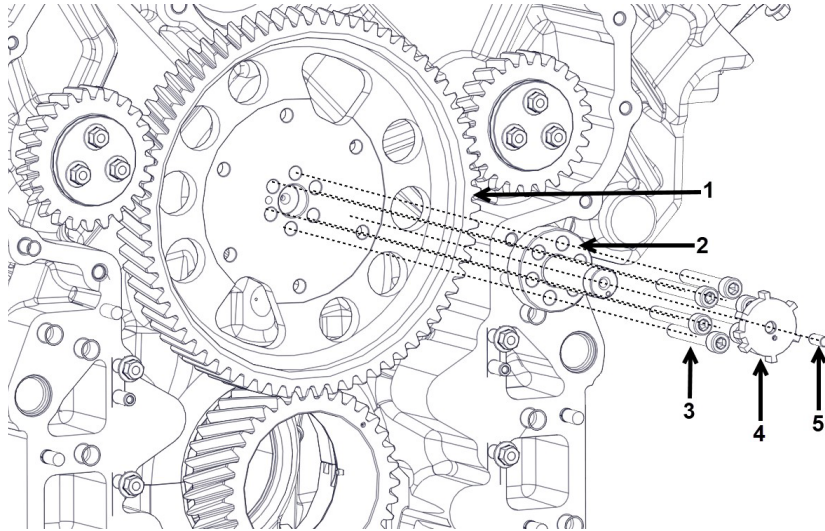

Figure 91.
2. Loosen the tightening bolt (Figure 91, Item 5) and remove the trigger wheel (Figure 91, Item 4).
3. Remove the bolts (Figure 91, Item 3) from the connecting shaft (Figure 91, Item 2) of the trigger wheel. Remove the connecting shaft, and camshaft gear (Figure 91, Item 1).